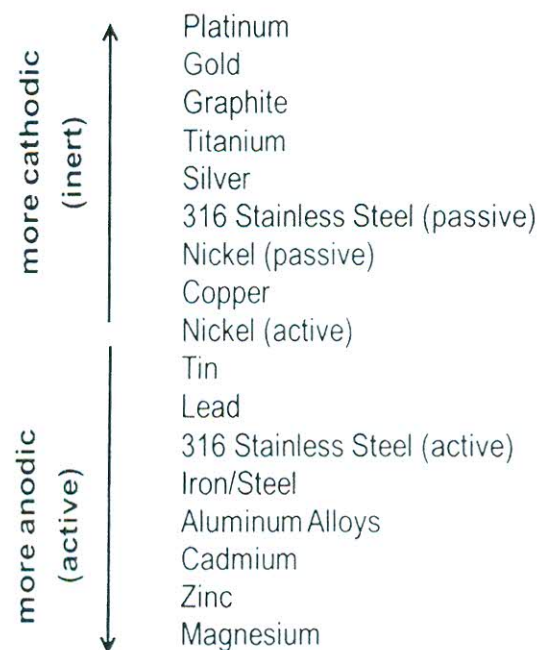

Figure 9 - The Galvanic Series of metals and commercial alloys in seawater
- [b] Tin cans are made of steel with the inside of can is coated with a thin layer of tin. The tin protects the steel from corrosion by food products. Briefly explain how this cathodic protection of tin cans is possible, given that tin is electrochemically less active than steel in the galvanic series as shown in Figure 9.